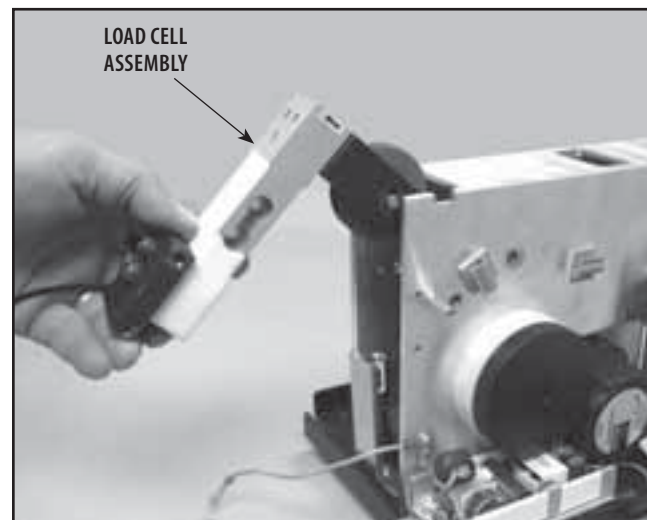

FIGURE 6.23
7. Lift Load Cell Assembly out of Chassis. See Figure 6.23.